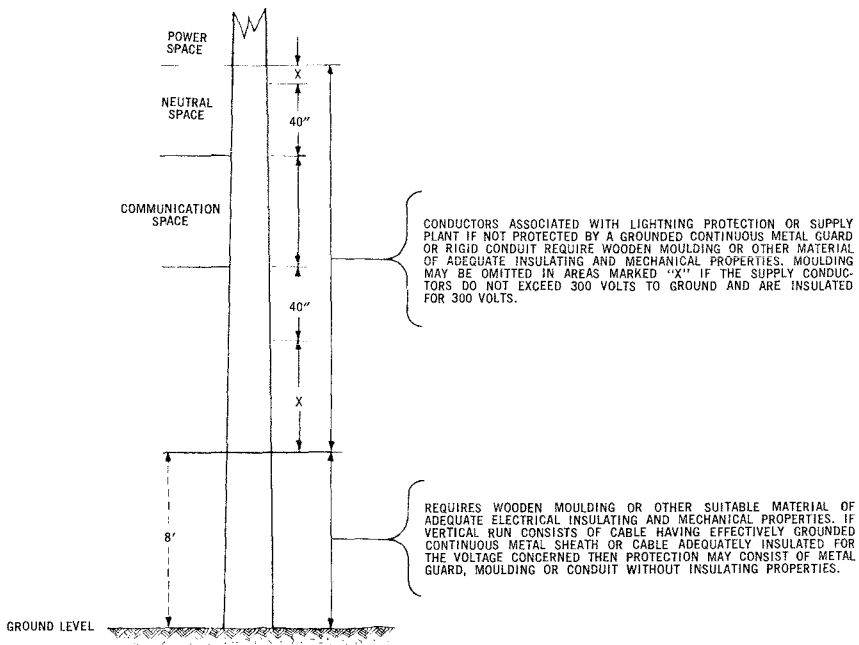

Fig. 3 — Vertical Runs on Poles
**4.02** Electrical and mechanical protection for vertical runs attached to the surface of the pole is illustrated in Fig. 3 (normal level arrangement):